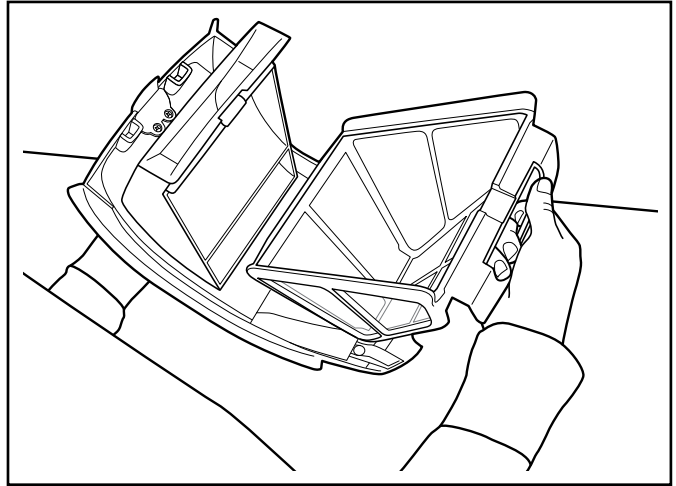

Figure 11. Remove Filter Canister from Cover
5. Press the canister clip with your finger to separate the filter canister from the top cover, as shown in Figure 11.